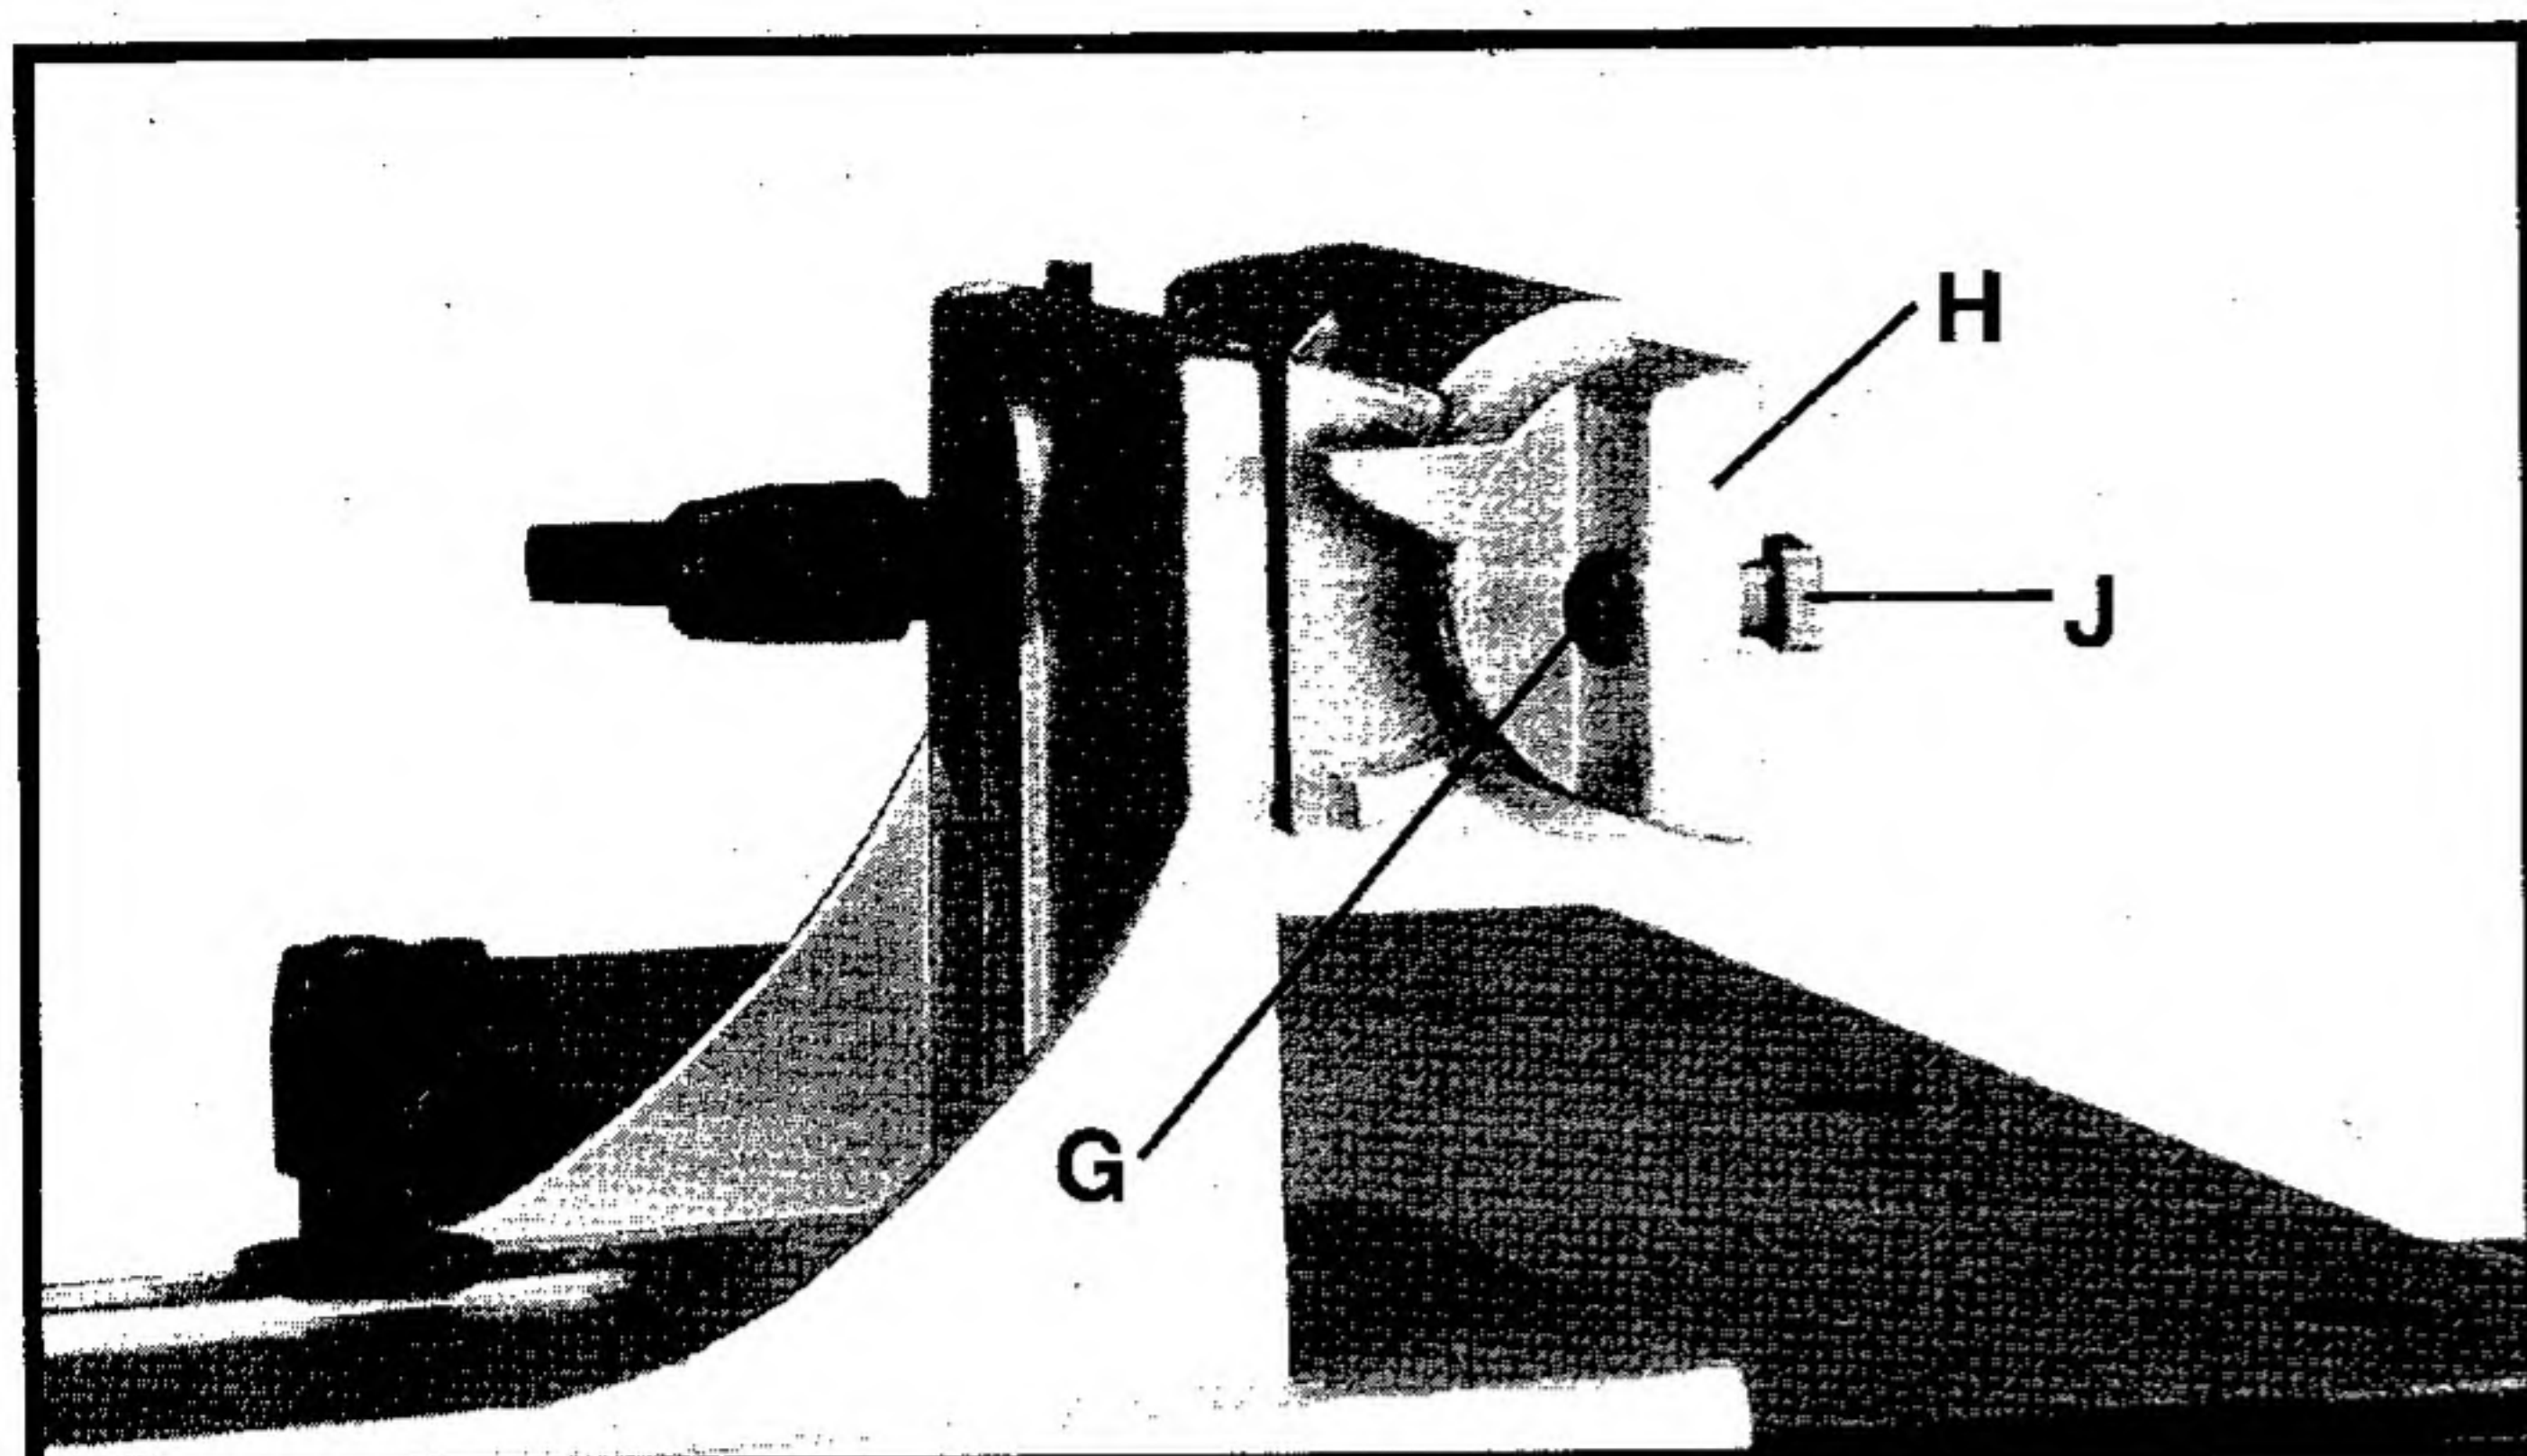

Fig. 9
3. Insert a M6x1x16mm button head screw (G) Fig. 9 through fence tilting bracket (H) and thread a M6x1 square nut (J) onto threaded end of screw (G). **DO NOT COMPLETELY TIGHTEN SCREW (G) AT THIS TIME.** Assemble screw and square nut to opposite end of tilting bracket in the same manner.